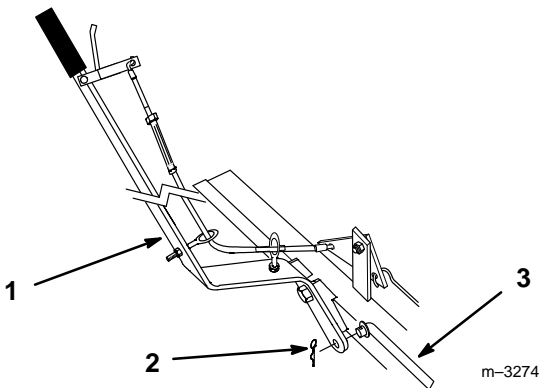

Figure 7
2. Remove hairpin cotter securing control rod to index handle, rotate lever rearward next to frame (Fig. 7).
7. Rotate index handle up and insert control rod. Secure with previously removed hairpin cotter (Fig. 7).